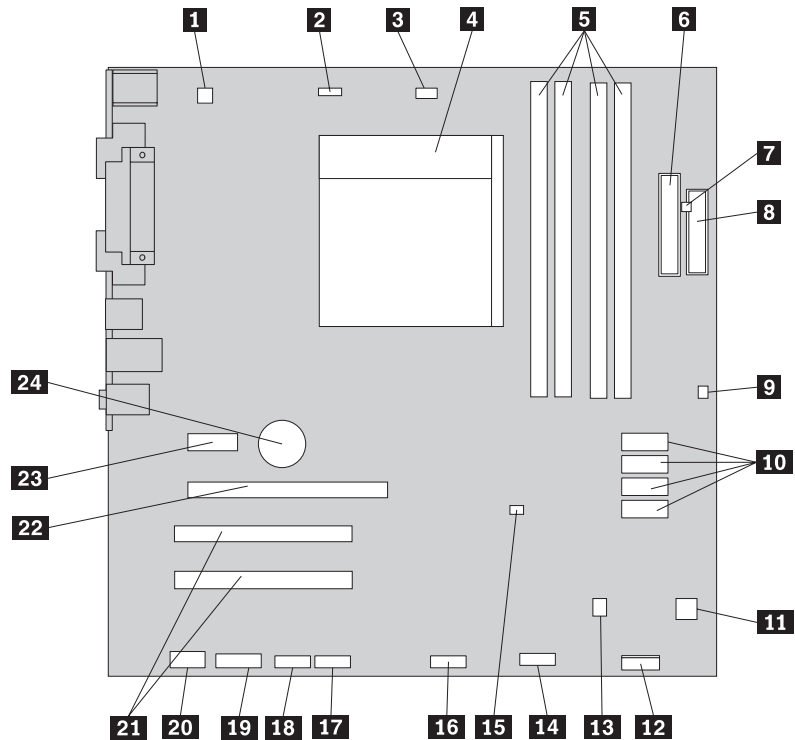

Figure 4. System board parts locations
Figure 4 shows the location of the parts on the system board.
4. Locate the memory slots. See Figure 4 on page 11.